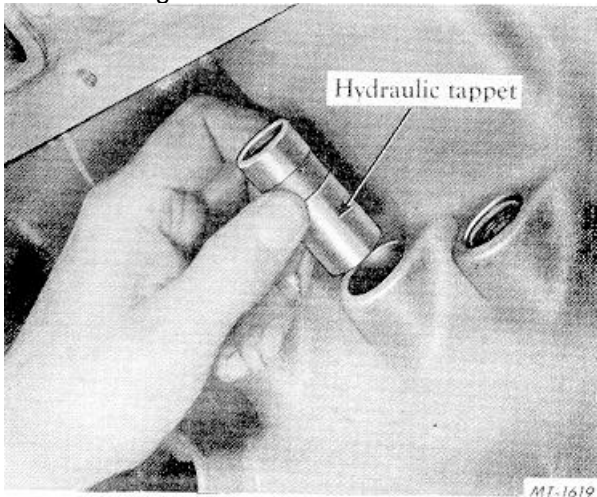

Fig. 35 Hydraulic Tappet Removal
42. Lift out all hydraulic valve lifters or tappets from the crankcase assembly, Fig. 35. This can be accomplished by rotating the camshaft so the tappets are resting on the high side of the camshaft lobes. Keep the tappets in order in storage box, SE-1894, to assure cleanliness and reinstallation in their original bores. NOTE: The tappets can be removed without disassembly of the engine. See Fig. 110.